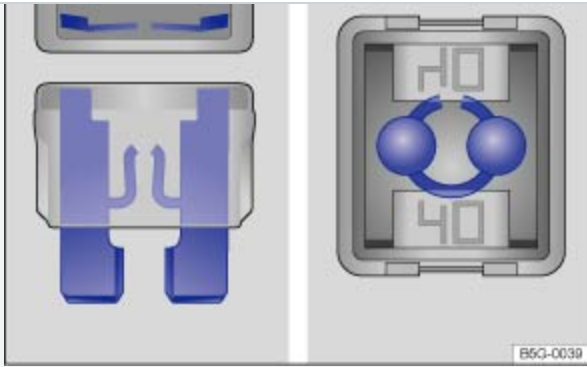

Fig. 233 Blown fuse: : Blade fuse. : JCASE® fuse.
- A blown *blade fuse* (ATO®, MINI®) has metal strips that have burned through, which you can see through the transparent housing from above and from the side ⇒ Fig. 233 **A**.
- A blown *cartridge fuse* (JCASE®) has metal strips that have burned through, which you can see through the transparent housing from above ⇒ Fig. 233 **B**.